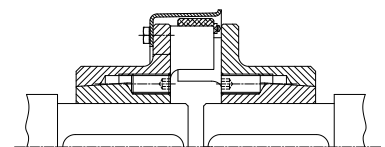

Fig. 3
4. Slide the element hub with inserted taper bush onto the cleaned shaft with key. Put it into the mounting position and tighten it uniformly according to Fig. 3 and Table 1.